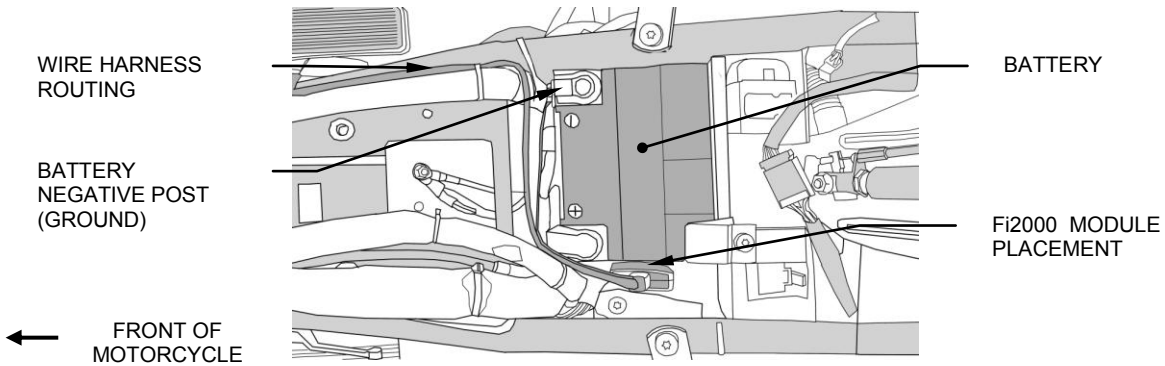
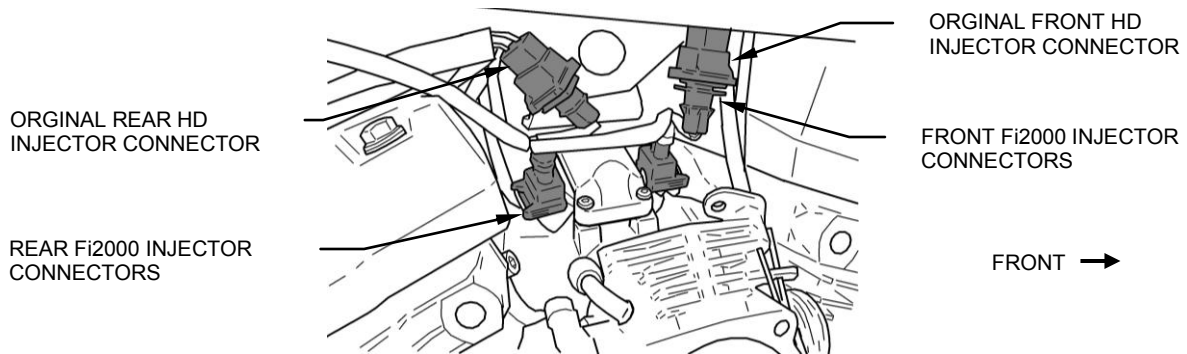

FIGURE 1
FIGURE 2
5. Lay the Fi2000 module in place, but do not attach it to the motorcycle, and run the wiring harness up to the manifold area behind the other wiring of the throttle body (See Figure 1). Attach one pair of the Fi2000 module’s injector plugs to the front injector. Take the original HD connector and insert the corresponding Fi2000 connector into it, see Figure 2.
6. Attach the Fi2000 module’s remaining injector plug to the rear injector. Take the original HD connector and insert the corresponding Fi2000 connector into it, see Figure 2. Use one of the supplied zip-ties to secure the Fi2000 wire harness to the upper motor mount before it is routed back towards the seat area.
7. Route the BLACK wire from the Fi2000 module to the negative post of the battery as shown in Figure 1.
10. Remove the backing from the Velcro and attach the Fi2000 next to the battery as shown in Figure 1.